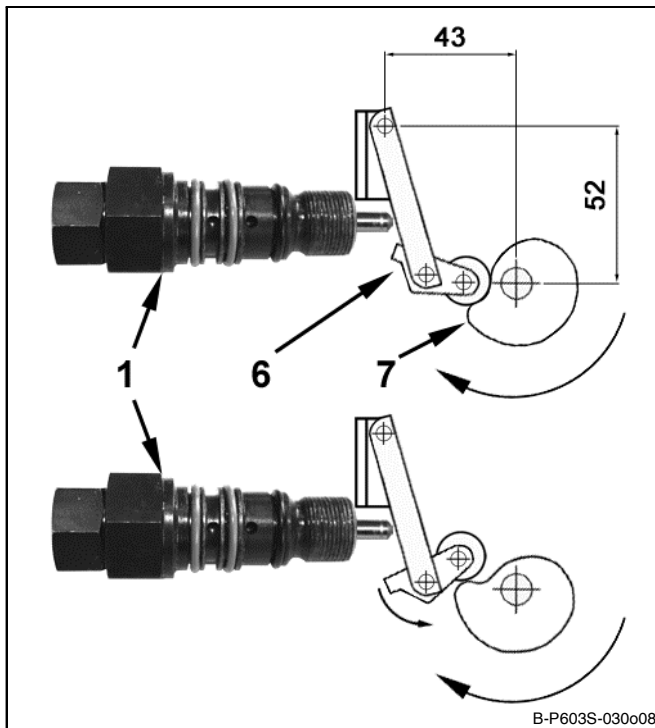

Fig. 4 Idle run of the switch joint on the venting element
- The motor turns the eccentric disc 7 (fig. 4) clockwise.
During pressurization the pump motor with eccentric 7 moves clockwise so that the venting element cannot be activated (fig. 4).